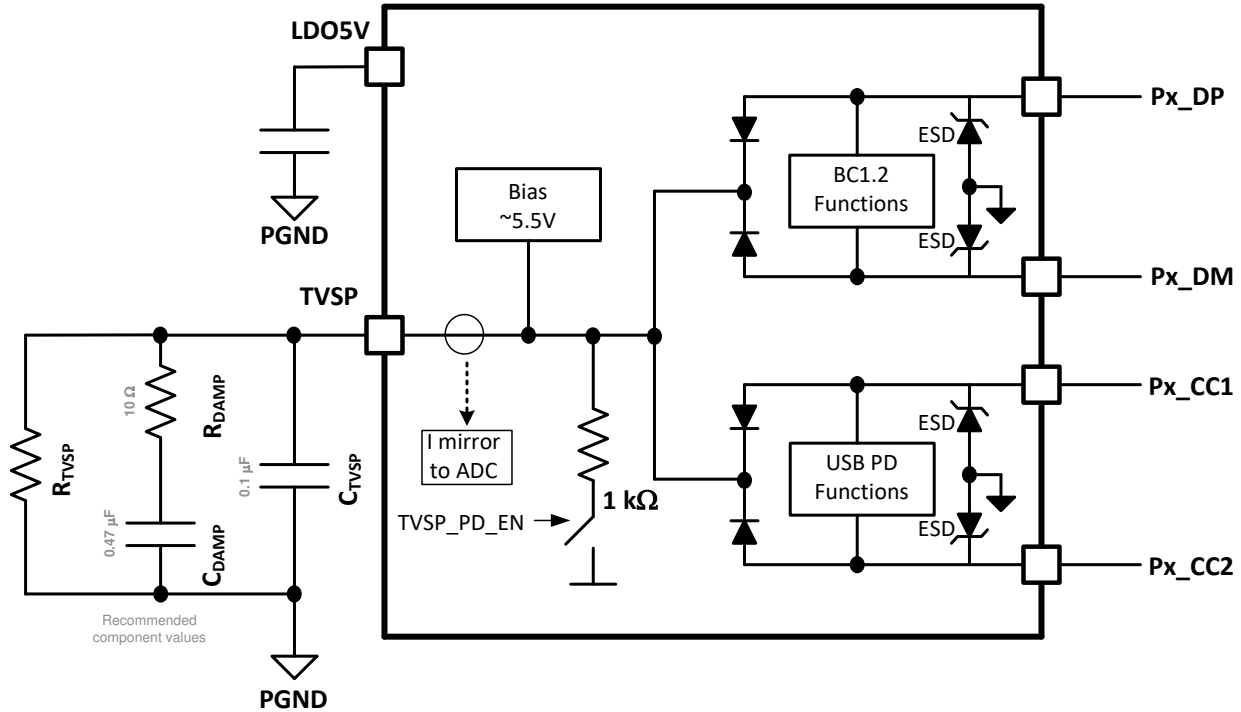

Figure 9-4. Basic TVSP Pin Connection
- **$R_{TVSP}$ :** At power on, the resistance between the TVSP pin and PGND determines the boot method, USB PD port I2C addresses and I2C logic thresholds. Refer to Table 9-4. The most common configuration is shown in Figure 9-4 with  $R_{TVSP}$  open, corresponding to TVSP Index 0. During device initialization and boot, typically within 4 seconds after power on,  $V_{IN}$  must be above 7.6 V to ensure proper bias of the TVSP pin to 5.5 V. Once boot is complete the device can operate over the full  $V_{IN}$  range.